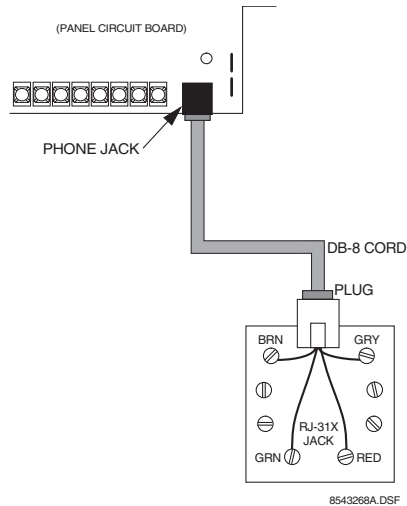

Figure 19. Connecting the DB-8 Cord to the Panel and RJ-31X Jack
1. Insert one end of the DB-8 cord plug into the RJ-31X (see Figure 19).
2. Insert the other end of the DB-8 cord plug into the phone jack on the Advent panel circuit board (see Figure 19).